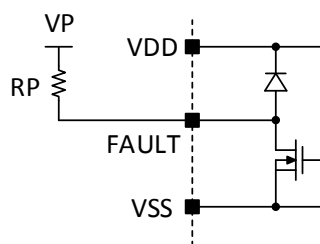

Figure 22. Fault Connection
The Fault pin is an active low output (open-drain output). It is used to indicate an internal fault condition of the module. The structure is shown in Figure 22. The sink current of I_{oSD} during an active fault is nominal 2mA @ 0.1V. Depending on the interface supply voltage the external pull-up resistor (RP) needs to be selected to set the low voltage below the VIL trip level.